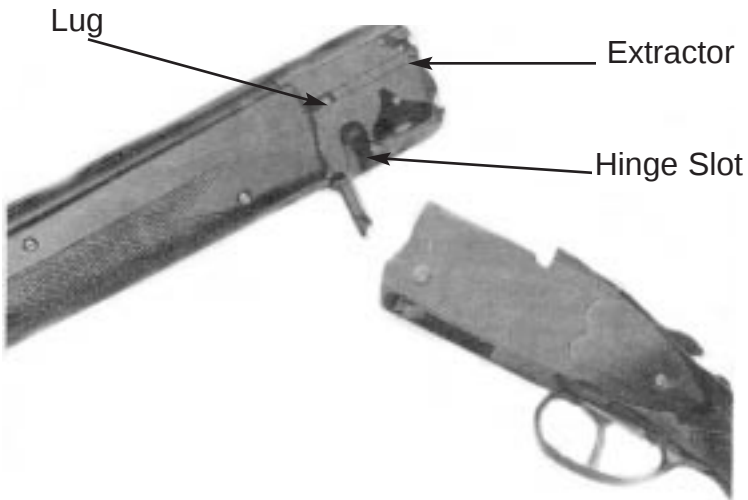

Fig.2 Disassembling Barrel from Receiver
To assemble, ensure that the latch (8) is in the verticle position (see Fig 2). Grasp the barrel with left hand and hold receiver with right hand. Move top lever to extreme right. Ensure that the extractor is fully forward. Slide the barrel assembly into the receiver. Ensure that the pins on the extractor fit into the grooves in the receiver. Close
Before disassembling, ensure your shotgun is unloaded and pointed in a safe direction. Move the barrel latch downward to its rear most position. Move the top lever to the extreme right to open the shotgun. Swing the barrel down for approximately 15°. Ensure the extractor is seated forward fully. Pull the barrel upward with your left hand, and press the buttstock downward with your right hand. Exert force simultaneously with both your hands in opposite directions to release the barrel from the receiver as shown in Fig 2.